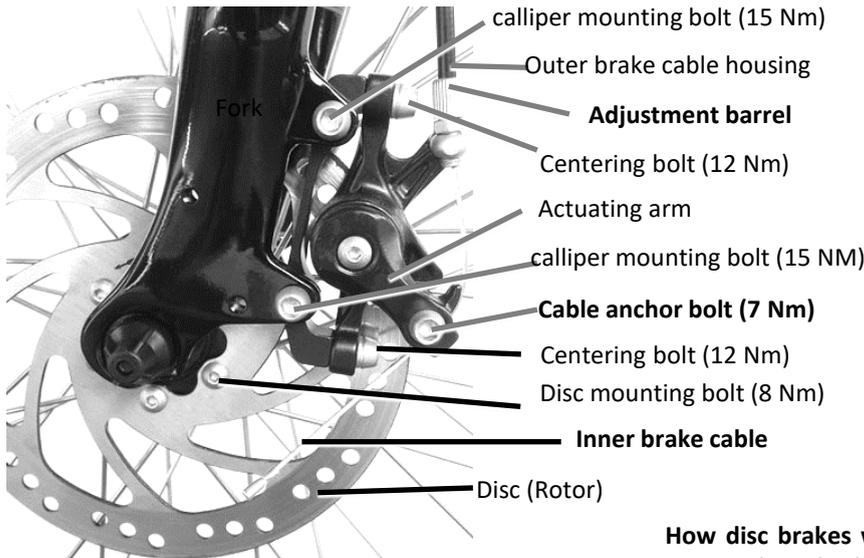

Figure DB1: Disc Brake Assembly: View from left side
How disc brakes work: Disc brake pads apply pressure to a disc mounted to the hub of the wheel (Figure DB1). The pressure is controlled with a hand lever on your handle-bar that is connected to the brake by a cable (inner brake cable). Do not press brake lever when wheel is not installed.
- 2) Adjust OUTER brake pad (**Figure DB1**): Turn adjustment barrel all the way clock-wise. Loosen cable anchor bolt. Adjust inner brake cable tension until outer pad is as close as possible to disc without touching disc. Tighten Cable anchor bolt. Turn adjustment barrel to fine-tune.
Aligning brake with disc (Figure DB1): Loosen centering bolts, align brake pads to disc by visual inspection (Figure DB3) or slide a thin object like a business card between outer brake pad and the disc. Pull handlebar lever fully and tighten Centering bolts to 12 Nm.